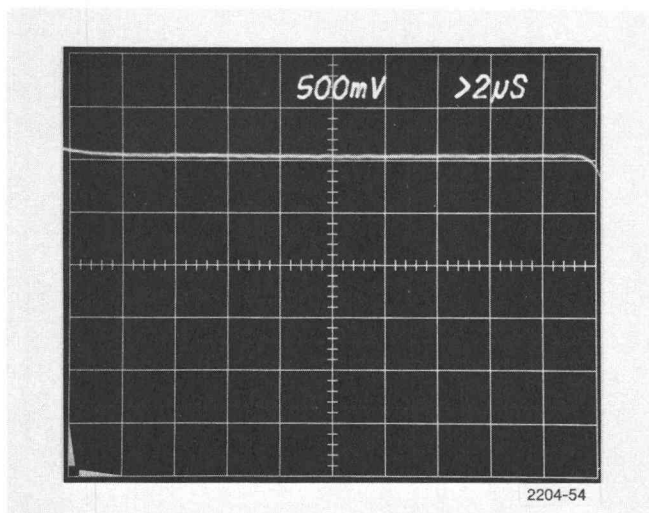

Fig. 6-7. Bell Filter Adjustment flat display.
c. CHECK—for a flat display, similar to Fig. 6-7.